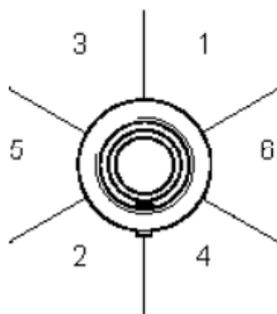
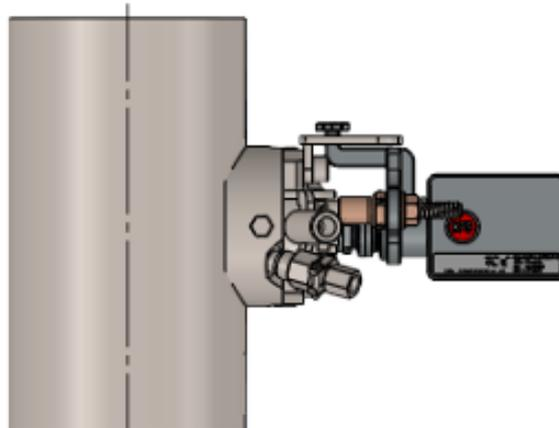

Figure 25 Welding must be done in 6 sequences as shown here.
Figure 28 PASVE® installation in vertical pipeline. Drawing 10728.
- **Welding guidelines:** Welding must be done in 6 sequences (see Fig. 25). Refer to Fig. 27 for horizontal pipe and Fig. 28 for vertical pipe installation. These drawings provide detailed welding instructions and information on cutting opening and welding sequences, and heat input control to ensure a robust and reliable weld.